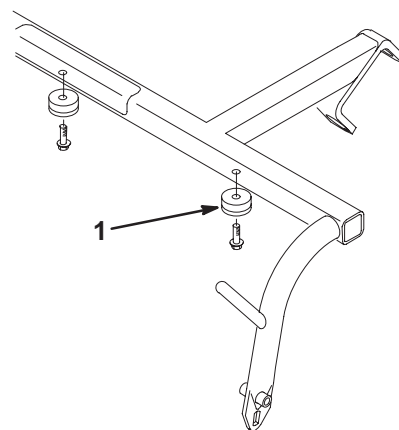

Figure 2
2. Mount the 2 recessed bumpers to the underside of each pull frame cross tube with 2 washer head self tapping screws (1/4 x 3/4 in.) (Fig. 2).